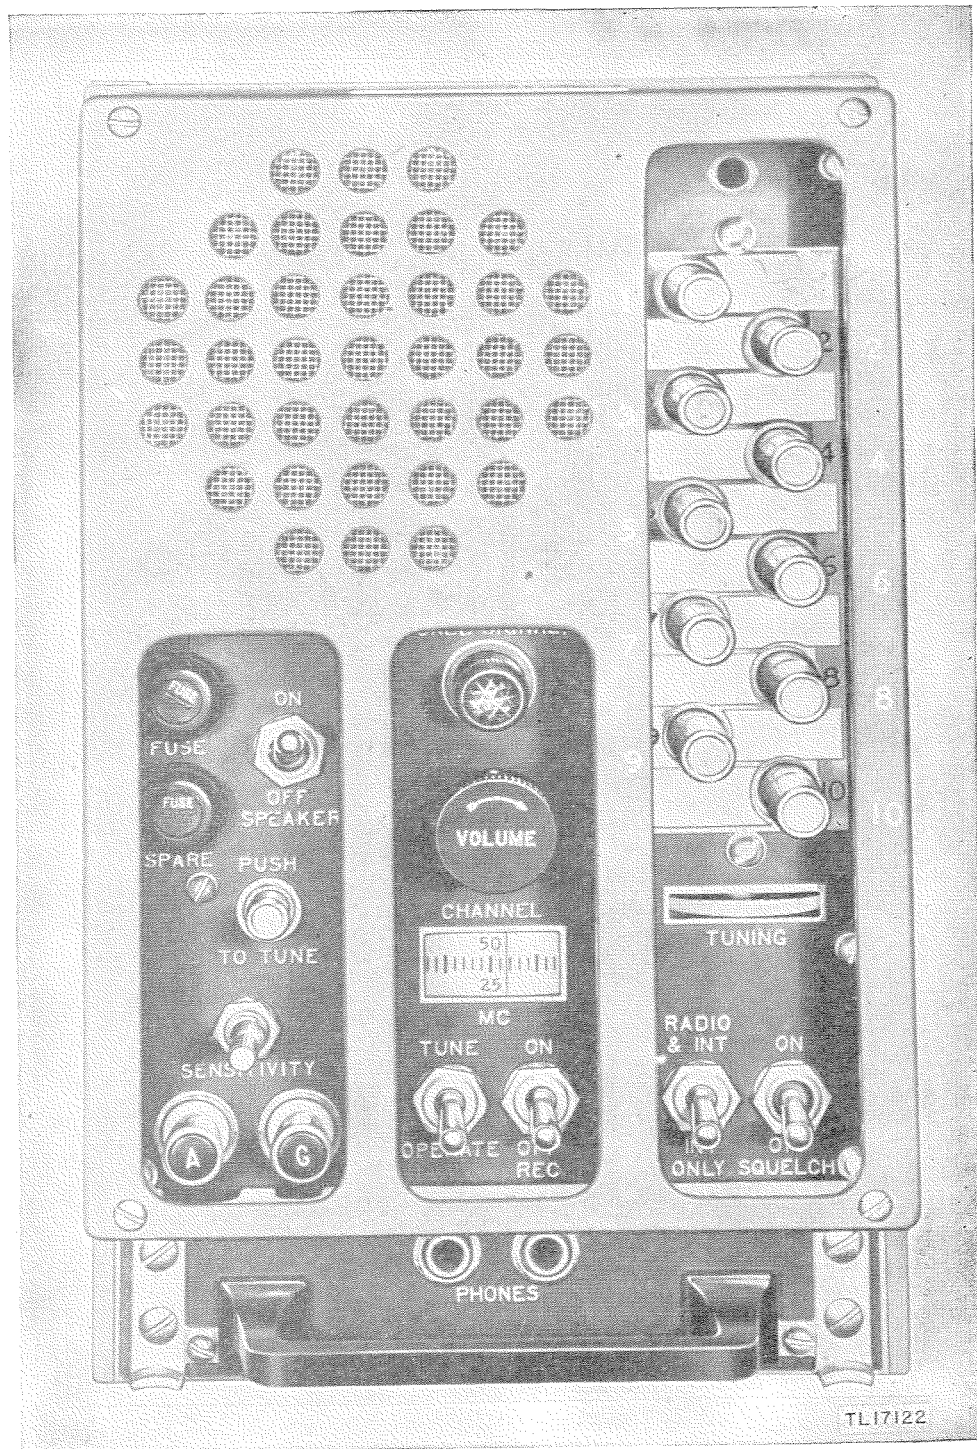

Figure 1. Radio Receiver BC-603-(\*)—front view.
Radio Receiver BC-603-(\*) (figs. 1 and 2) is a component of Radio Sets SCR-508-(\*), SCR-528-(\*), SCR-538-(\*), AN/VRC-5 and AN/TRR-3. The receiver provides frequency-modulated radiotelephone reception facilities for car, platoon, company battalion, and regimental commanders, and for staff officers and commanders in higher echelon. The receiver may be installed and operated in combat vehicles such as tanks, scout cars, half-tracks and command cars, or any other authorized vehicle. Official nomenclature followed by (\*) is used to indicate all models of the item of equipment included in this Technical Manual. Thus Radio Receiver BC-603-(\*) represents BC-603-A, -C, -D, -AM, -CM, and -DM.
c. **FUSE REMOVAL.** Two fuses, labeled FUSE and SPARE, are located within the panel guard, below the speaker. (See figs. 1 and 7.) Remove the fuses by inserting a screw driver in the slotted fuse holders and turning counterclockwise. The fuses can easily be extracted from their holding sleeves.